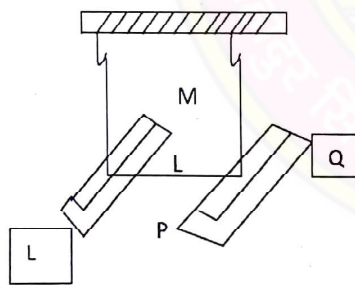

Fig 5.13
1. Fasten the wire under test to the identical bars LM and PQ at their middle point as shown in fig 5.13. Suspend the two bars from a rigid support, by two threads of suitable lengths so that when the system is at rest, the two bars and the wire lie in the same horizontal plane.